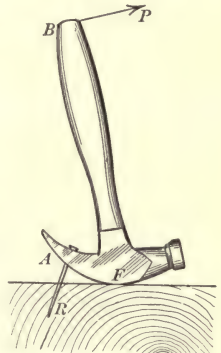

FIG. 16. — Hammer as a bent lever.
23. Bent lever. Consider next a claw hammer (Fig. 16) with a 12-inch handle. If a 60-pound pull (P) at B is necessary to pull the nail at A , which is 1.5 inches from F , what is the resistance (R) which the nail offers? The moment of P is $P \times BF$, and the moment of R is $R \times AF$, therefore $60 \times 12 = R \times 1.5$, and $R = 480$ pounds. In this case it will be seen that the two arms of the lever are